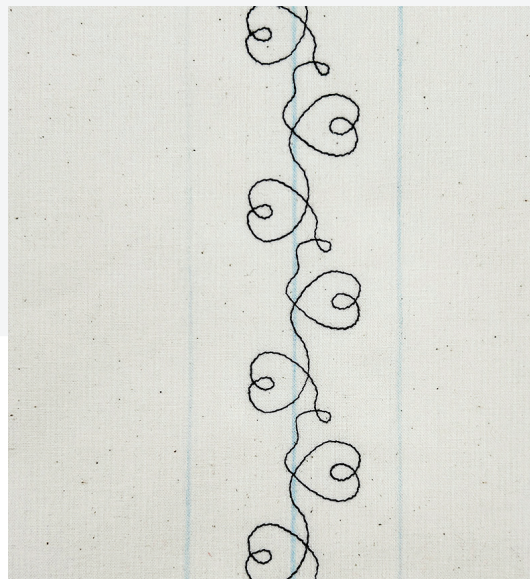

Fig. 25
1. From the Selection Menu (Fig. 25), select: